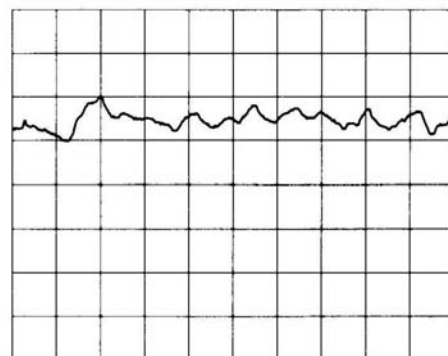

FIGURE 4-7. RESIDUAL FM DISPLAY
6. Slightly readjust spectrum analyzer FINE TUNING control until trace appears between fourth and seventh graticule lines. Peak-to-peak variation of trace should not exceed 1.4 vertical division for each horizontal division (see Figure 4-7).